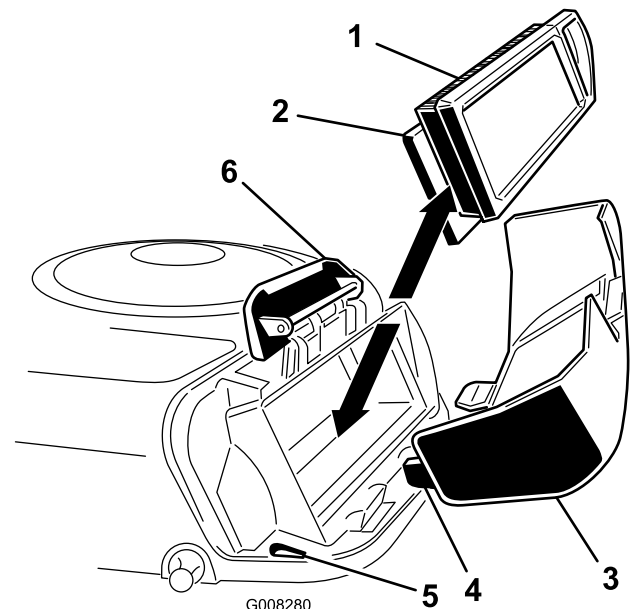

Figure 22
- Align the tabs on the air cleaner cover with the slots of the blower housing (Figure 22). Hook the handle onto the cover and press down on the handle to lock the cover in place.